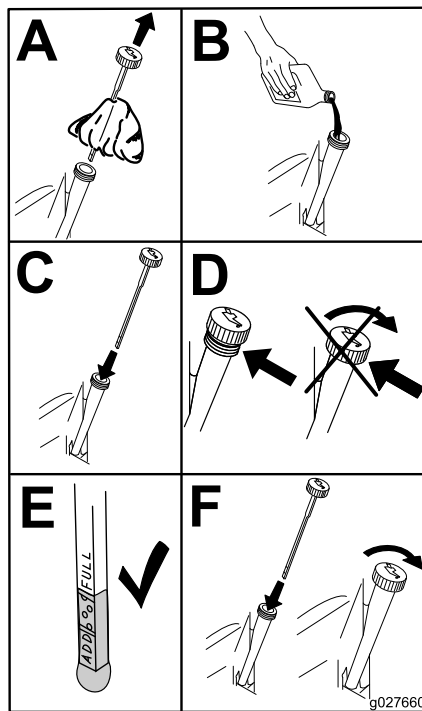

Figure 48
4. Slowly pour approximately 80% of the specified oil into the filler tube and slowly add the additional oil to bring it to the **Full** mark (Figure 48).